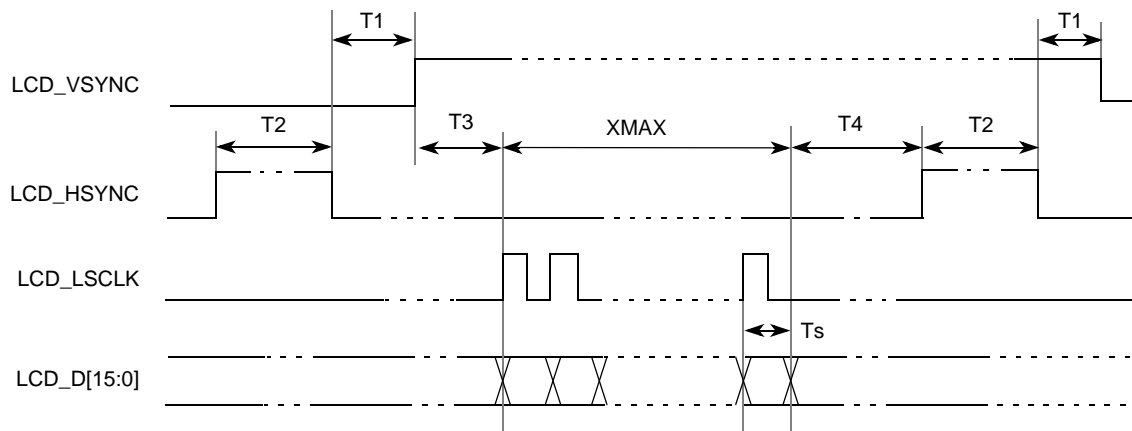

Figure 21. Non-TFT Mode Panel Timing
**Note:** Ts is the LCD\_LSCLK period while Tpix is the pixel clock period. LCD\_VSYNC, LCD\_HSYNC, and LCD\_LSCLK can be programmed as active high or active low. In Figure 21, all these 3 signals are active high. When it is in CSTN mode or monochrome mode with bus width = 1,  $T3 = Tpix = Ts$ . When it is in monochrome mode with bus width = 2, 4 and 8,  $T3 = 1, 2$  and  $4 Tpix$  respectively.